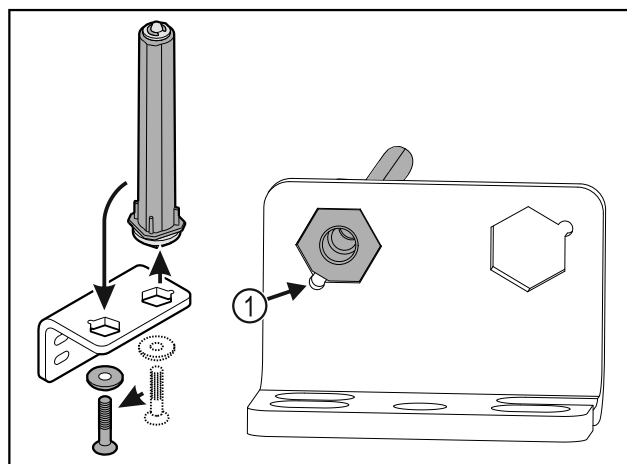

Fig. 29
- Make sure the pin chamfer Fig. 29 (1) faces the round hole when you put it in.